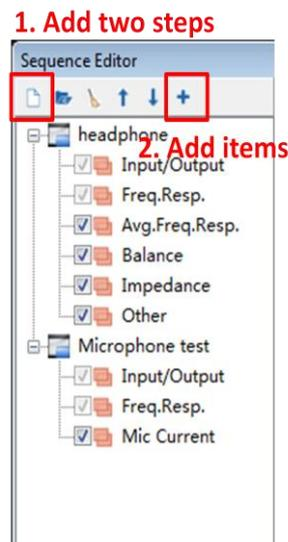

Figure 5.32 Test Steps
- 2) Add items. Add average frequency response, balance, impedance and other to headphone test and add Mic current for microphone test, as shown in Figure 5.32.